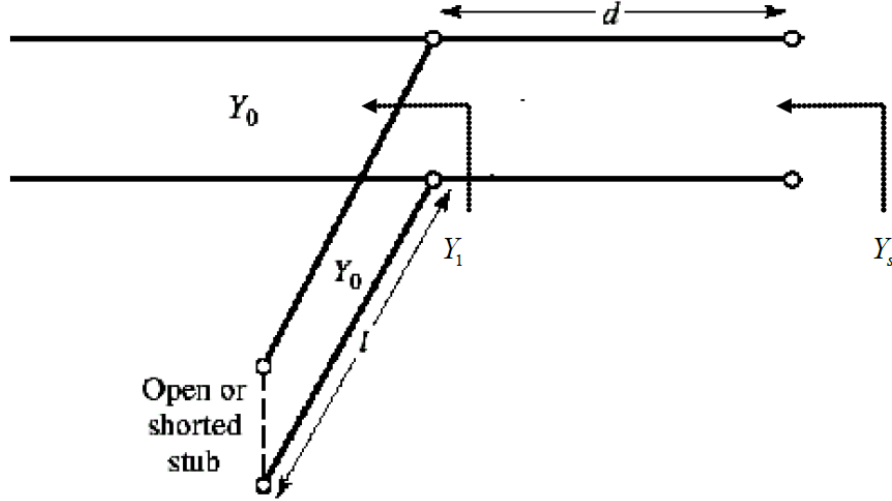

Figure 4: Single-stub circuit for input impedance matching
For the amplifier design, we can provide a similar solution with some modifications. Figure 4 shows the matching network design for the input matching where the output admittance is transformed from  $Y_0$  to  $Y_s$ , where  $Y_s$  is the source admittance that satisfies the conjugate matching corresponding to the  $\Gamma_s$  computed in eqn. (7). A point at length  $d$  from the generator will have impedance  $Y_1$  with a real part of the admittance equal to the characteristic admittance  $Y_0$ , which is
- With the aid of the Smith Chart, derive the lengths of the transmission lines for the shunt single-stub circuits as shown in Figure 4, for both input and output matching circuits. Using Equations 3.195-3.197 in [1] to calculate the corresponding wavelength at 2.4 GHz for 50 ohm transmission line on the PCB used for the lab.